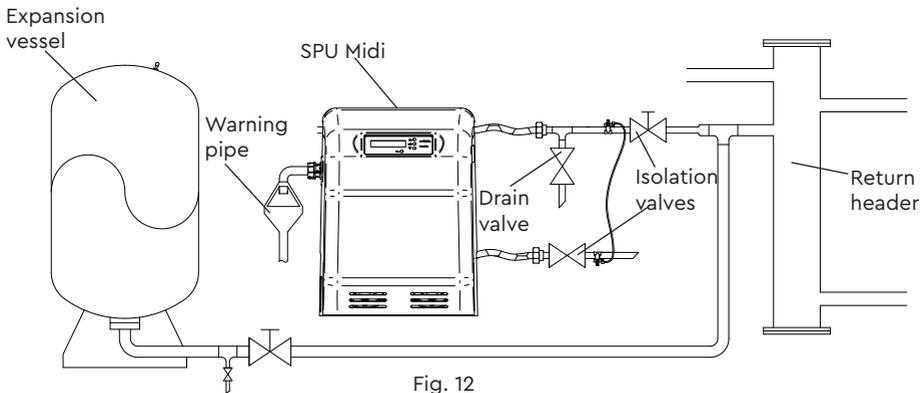

Fig. 12
2. Isolating valves **MUST** be installed on the unit inlet and outlet, before connection to the flexible hoses to allow the unit to be isolated if required. The isolation valve on the outlet should be of a lockshield type. See Fig. 12.
3. A drain valve must be fitted on the outlet of the SPU Midi before the isolation valve. See Fig. 12.
9. The SPU Midi should be connected to the system return header along with the expansion vessels as specified in BS 7074. See Fig. 12.